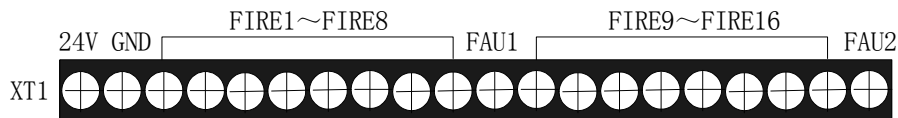

Fig. 4 Terminals
2. Terminals are shown in Fig. 4.